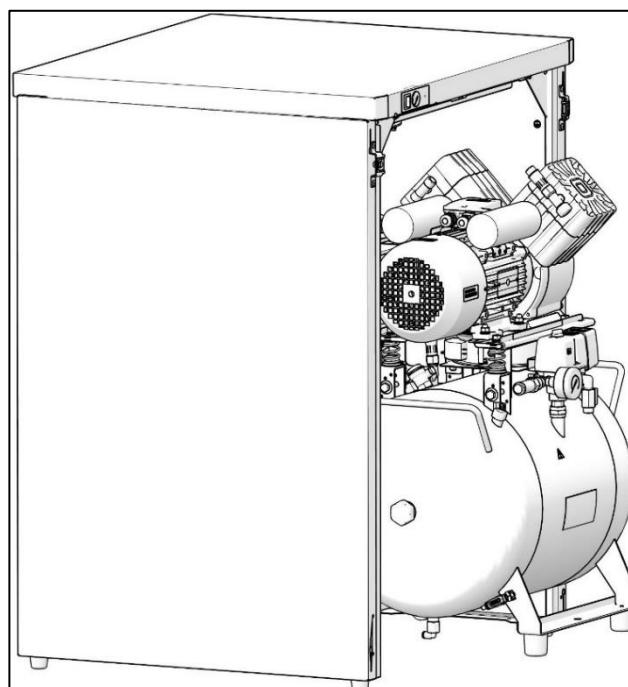

Fig. 15: Positioning the compressor for electrical connections
- Position the compressor at such a distance from the cabinet so the WINSTA connector can make the electrical connection between the compressor and the cabinet (Fig. 13, Fig. 15).